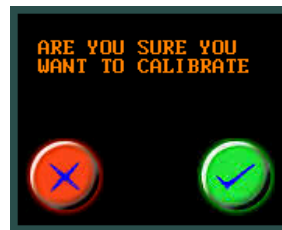

Figure 6-3: Confirm Calibration Prompt
4. A message will be displayed asking to enter or cancel Calibration (Figure 6-3).